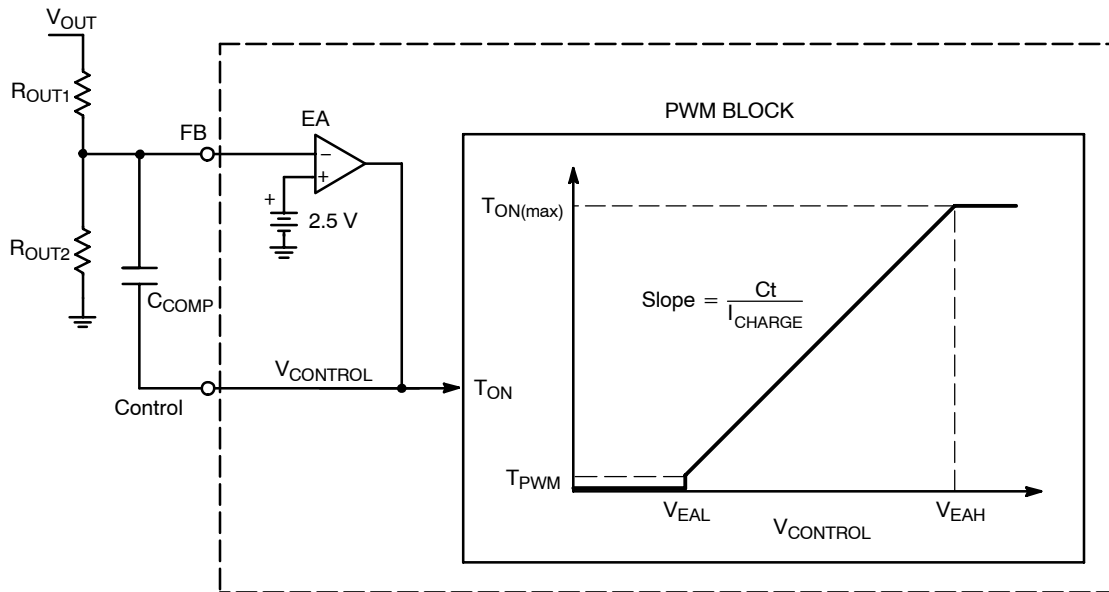

Figure 25. Error Amplifier and On Time Regulation Circuits
The NCP1606 is configured to regulate the boost output voltage based on its built in error amplifier (EA). The error amplifier's negative terminal is pinned out to FB, the positive terminal is tied to a $2.5 \text{ V} \pm 1.5\%$ reference, and the output is pinned out to Control (Figure 25).